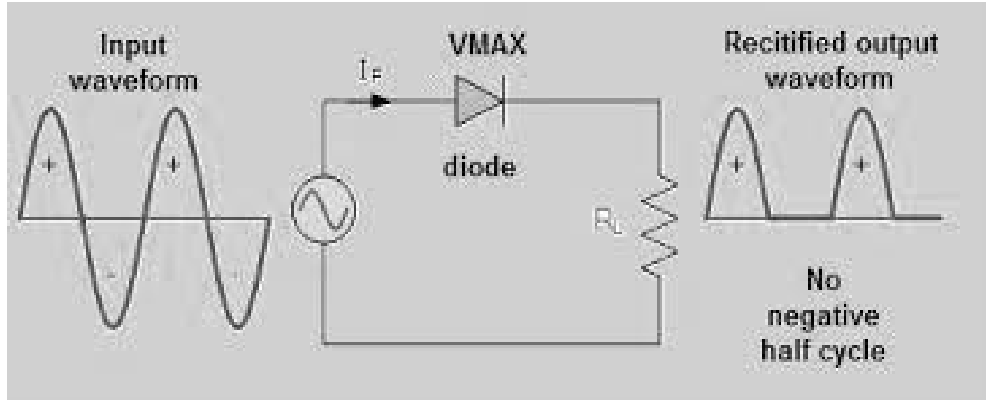
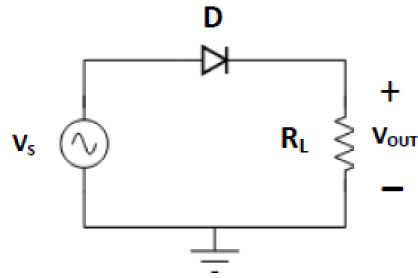

Fig 5.2 Half wave rectifier without filter
Fig.5.4 Half-wave rectifier circuit
The output of a rectifier gives a pulsating d.c. signal (Fig.5.2) because of presence of some a.c. components whose frequency is equal to that of the a.c. supply frequency. Very often when rectifying an alternating voltage we wish to produce a "steady" direct voltage free from any voltage variations or ripple. Filter circuits are used to smoothen the output. Various filter circuits are available such as shunt capacitor, series inductor, choke input LC filter and π -filter etc. Here we will use a simple **shunt capacitor** filter circuit (Fig.5.4). Since a capacitor is open to d.c. and offers a low impedance path to a.c. current, putting a capacitor across the output will make the d.c. component to pass through the load resulting in small ripple voltage.
2. Make the connection as per the circuit diagram shown in fig. 5.4 & 5.5